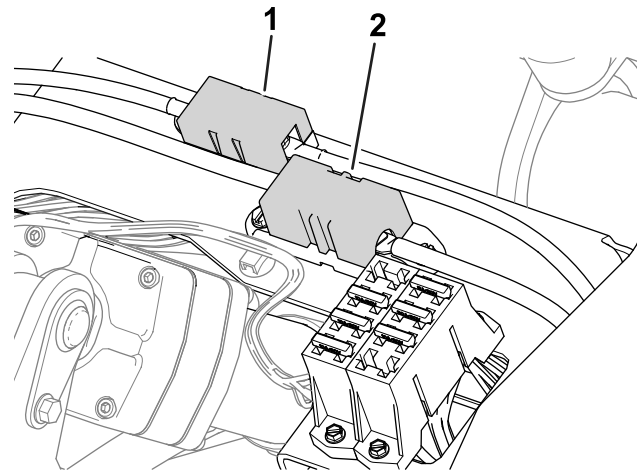

Figure 58
- The fuses for the generator (100 A) and the right wheel motor (60 A) are located under the seat (Figure 58).